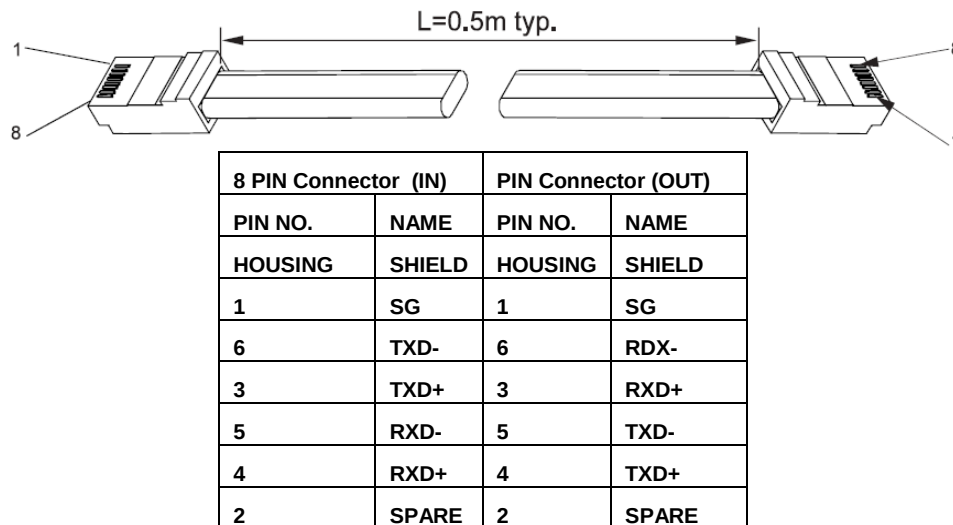

Fig.7-6: Serial link cable with RJ-45 shielded connectors (P/N: GEN/RJ45)
- Using the Linking cable supplied with each unit (refer to Fig. 7-6), connect each unit OUT connector to the next unit IN connector.